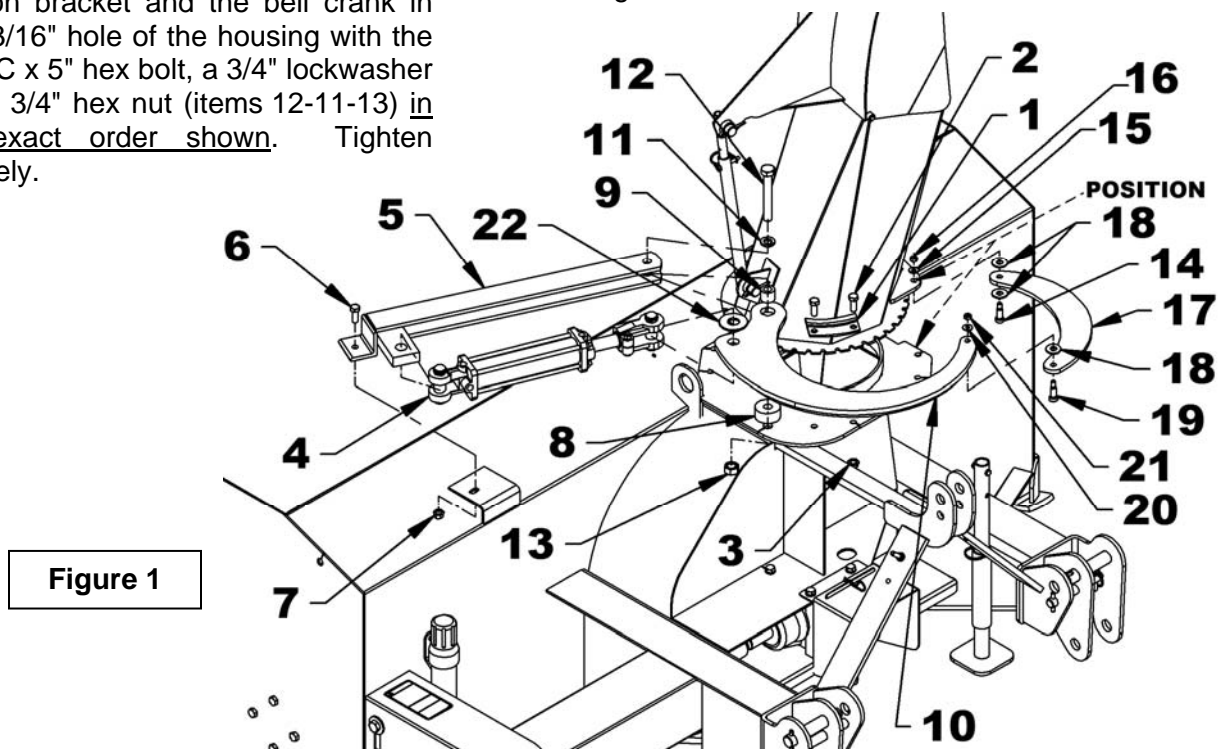

Figure 1
1. **Figure 1:** Place the hole identified "POSITION" on the chute base as shown in figure.
2. **Figure 1:** Apply grease on the chute base and around the snowblower chute ring and install the chute with the four retaining plates (item 1), eight 1/2"NC x 1 1/4" bolts and eight serrated flange nuts (items 2-3). Do not tighten immediately.
3. **Figure 1:** Attach the rotation bracket (item 5) in the slot on the left side of the housing with a 1/2"NC x 1 1/4" hex bolt and a 1/2" serrated flange nut (items 6-7).
4. **Figure 1:** Place the spacer ring (item 8) on the 13/16" hole of the housing; insert the pivot bushing (item 9) in the bell crank (item 10) and slide the bell crank between the flat bars of the rotation bracket (item 5).
5. **Figure 1:** Attach the other end of the rotation bracket and the bell crank in the 13/16" hole of the housing with the 3/4"NC x 5" hex bolt, a 3/4" lockwasher and a 3/4" hex nut (items 12-11-13) in the exact order shown. Tighten securely.
6. **Figure 1:** Grease generously both holes of the push arm (item 17) and install one end under the flat bar welded on the base of the chute and secure with a 1/2" x 1" shoulder screw, two 9/16" hole flat washer, a 3/8" hole flat washer and a 3/8"NC stover nut (items 14-18-15-16) in the exact order shown. Tighten leaving some movement to the mechanism.
7. **Figure 1:** Install the other end of the push arm (item 17) under the bell crank (item 10) and secure with a 1/2" x 1" shoulder screw, a 9/16" hole flat washer, a 3/8" hole flat washer and a 3/8"NC stover nut (items 19-18-20-21) in the exact order shown. Tighten leaving some movement to the mechanism.
8. **Figure 1:** Attach the fixed section of the cylinder (item 4) to the rotation bracket (item 5) and the sliding section to the bell crank (item 10) placing a \varnothing 1 1/16" flat washer (item 22) between the cylinder yoke and the top of the bell crank then secure with the cylinder pins and the circlips. Point the hydraulic ports upward as illustrated.
- NOTE:** The 1 1/16" flat washer (item 22) is required only if the cylinder pin rubs against the snowblower housing.